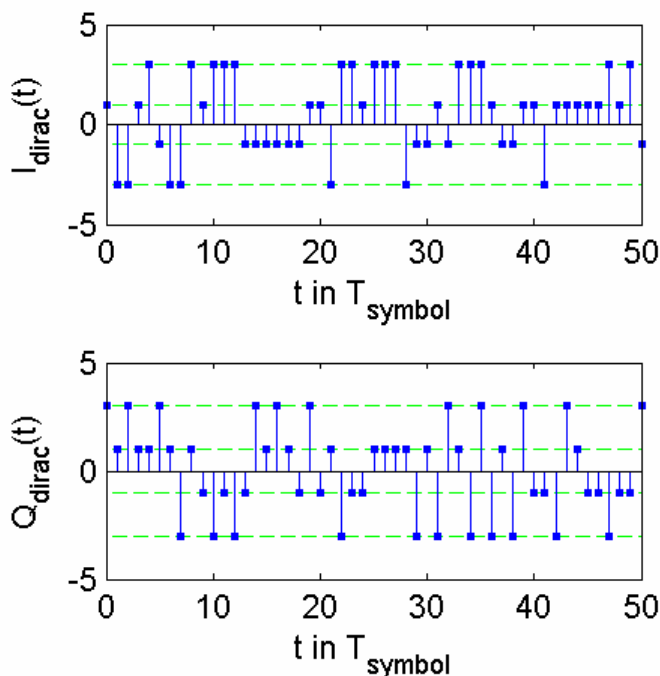
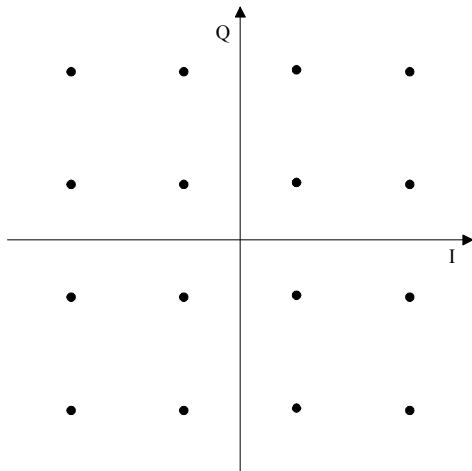
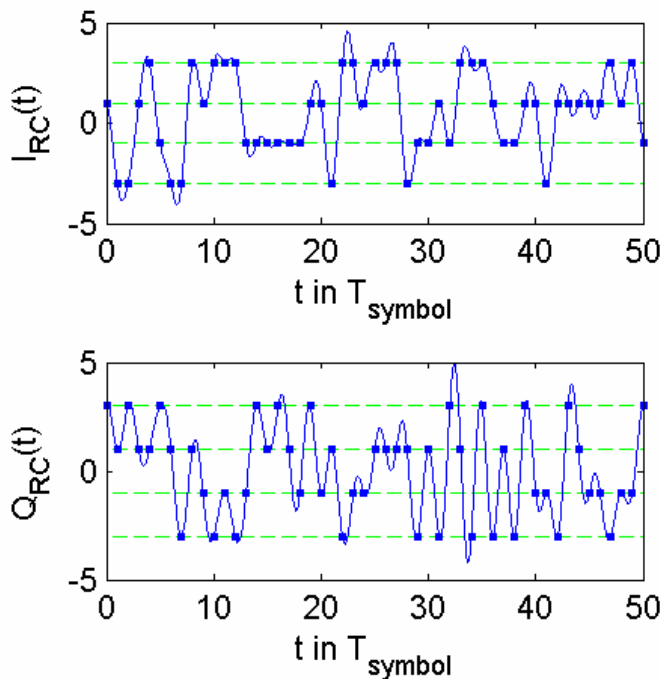

Fig. 2-45 Pulse signals $I_{dirac}(t)$ and $Q_{dirac}(t)$ for 16QAM
Fig. 2-46 16QAM constellation diagram
Fig. 2-48 Raised cosine filtered dirac signals $I_{RC}(t)$ and $Q_{RC}(t)$
The *symbol mapping* block transforms the digital information (bits) into the continuous signals $I_{dirac}(t)$ and $Q_{dirac}(t)$. $I_{dirac}(t)$ and $Q_{dirac}(t)$ (see Fig. 2-45) consist of dirac pulses that appear at times $t=n \cdot T_{symbol}$ and that can be distinguished by their in-phase "I" and quadrature "Q" levels. For example a 16QAM constellation has 16 different I and Q combinations and 4 different I and Q levels ($4 \cdot 4 = 16$). Typically this is visualized in a constellation diagram (see Fig. 2-46). With $16 = 2^4$ we are able to transmit 4 bits per symbol. Therefore we can calculate:
We notice that the symbol instants (highlighted with squares) are not on the horizontal lines (possible symbol levels) anymore. This is due to the inter-symbol interference introduced by the root raised cosine TX filter. Contrary to the signal filtered with two root raised cosine filters (TX and RX) the one filtered with a single root raised cosine filter (TX) does not satisfy the condition for zero inter-symbol interference. Fig. 2-48 shows the signal obtained by filtering the dirac signals with two root raised cosine filters. The convolution of two root raised cosine filters is also called raised cosine filter and it results in an overall inter-symbol interference free system. We observe that all symbol instants (highlighted with squares) of $I_{RC}(t)$ and $Q_{RC}(t)$ have exactly the same levels as the signals $I_{dirac}(t)$ and $Q_{dirac}(t)$ in Fig. 2-45. Please note that this is only true for the signals $I_{RC}(t)$ and $Q_{RC}(t)$ if there is no noise present in the receiver. In the case of noise points will turn into clouds, that is what can be seen in the Constellation Diagram measurement (modulation analysis).
Please note that the $2\pi/4$ rad (90 deg) rotational symmetry of the QAM constellation (see Fig. 2-46) leads to an ambiguity in the calculation of the amplitude imbalance. Ambiguity means that the QAM demodulator of the Cable TV Measurements option has no knowledge of the absolute phase in the transmitter but chooses one out of four possible phase angles (0, $\pi/2$, π , or $3\pi/2$ rad). It can be shown that the phase ambiguity leads to two possible amplitude imbalance values. For the amplitude imbalance the ambiguity can be resolved by using the definition as follows: